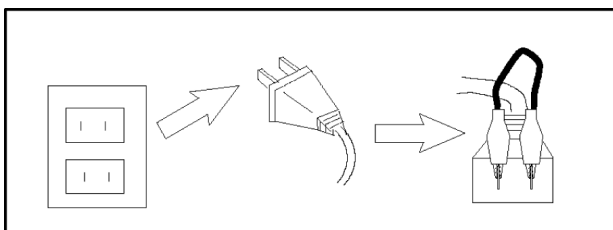

Fig. 2
1. Unplug the AC cord and connect a jumper between the two prongs on the plug. Fig. 2.